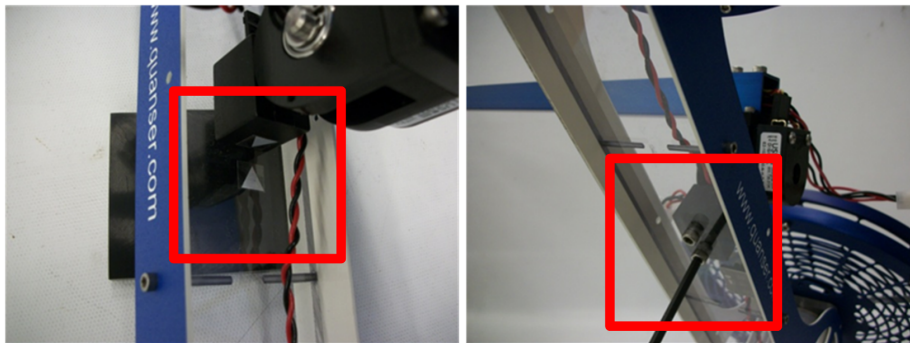

Figure 3.2: Attach the 3 DOF Helicopter body and arm.
2. Using the supplied 8-32 1/2 inch cap screws attach the helicopter body to the helicopter arm. Make sure the alignment arrows are facing each other as shown in Figure 3.2.